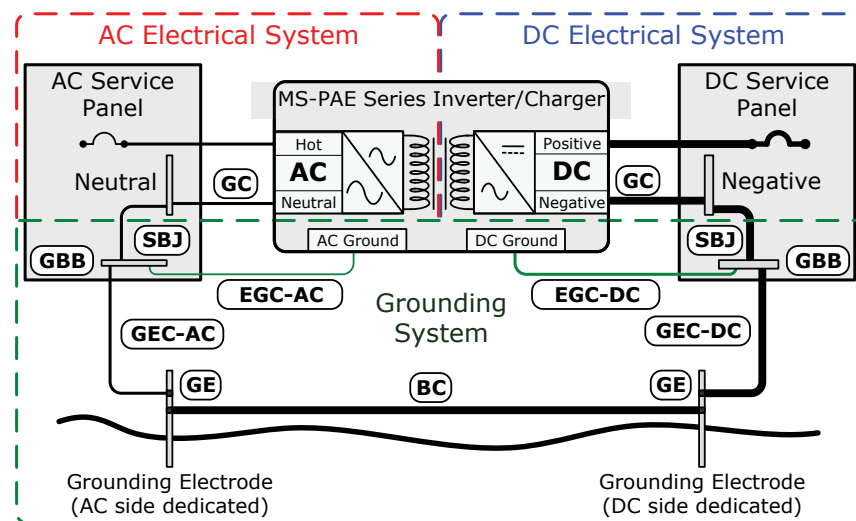

Figure 2-13, Method 1 – DC Ground Rod with Multiple Connections (using multiple grounding electrodes)
Method 1 (see Figure 2-13): This method uses a separate grounding electrode (GE) for the DC system and the AC system. In this method—since there are multiple connections to the DC grounding electrode (GE)—the size of the DC grounding electrode conductor (GEC–DC) cannot be smaller than the largest conductor in the DC system (usually the battery-to-inverter cable). The DC grounding electrode (GE) must be bonded to the AC grounding electrode (GE) to make a grounding electrode system; this bonding conductor (BC) cannot be smaller than the largest grounding electrode conductor—either AC or DC.